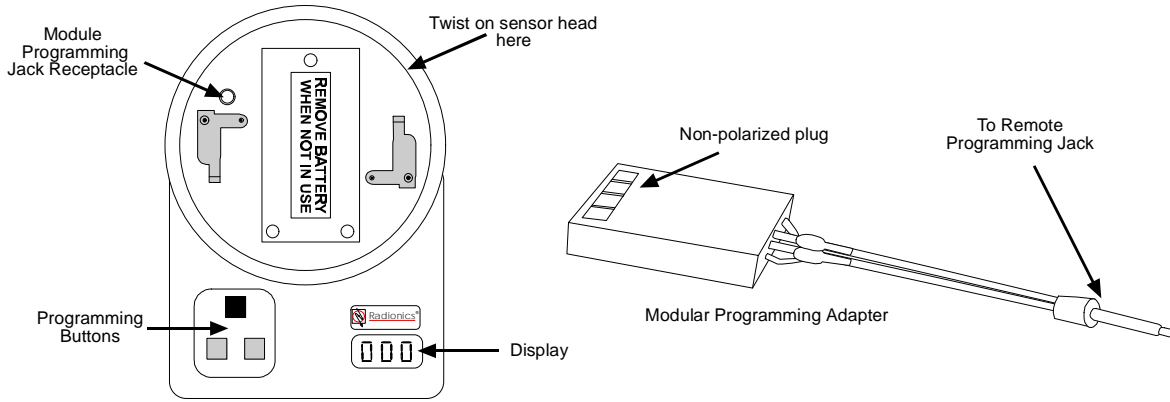

Figure 1: D5070 Analog Device Programmer and Module Programming Adapter
- The following steps explain how to set an address using the D5070 Analog Device Programmer. See Figures 1 - 3 for more details.